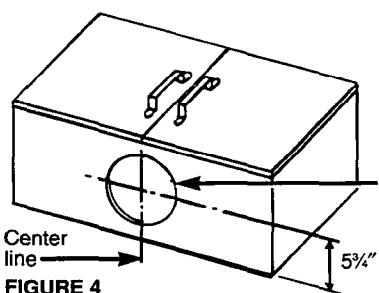

FIGURE 4
**Type "B" Models:** See Figs. 4 and 9.